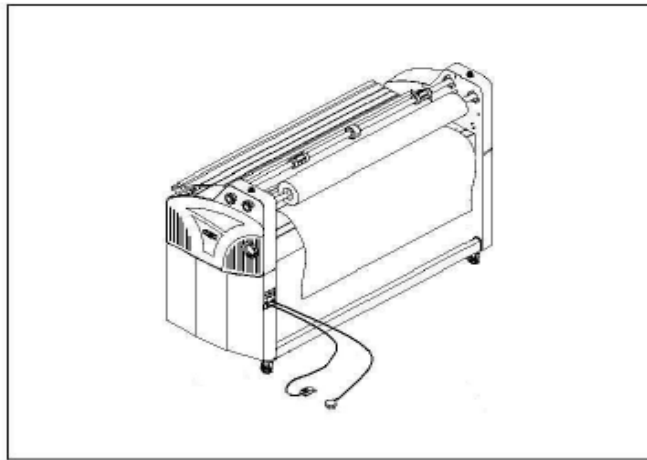

Fig. 3
3. The laminator should be positioned to allow exiting film to flow freely to the floor or a work table (Figure 3). Accumulation of laminate immediately behind the laminator as it exits the equipment may cause the film to wrap around the pull rollers, resulting in a "jammed" condition.